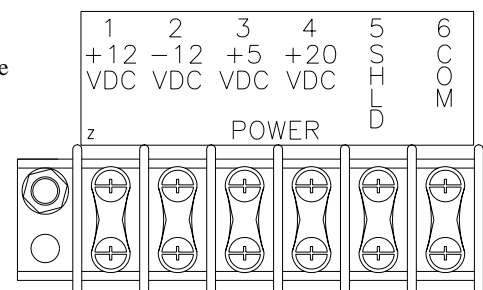

Figure Q.4-4: Power Connections for the Model TCPU and Tachometer
- 2) Attach the BROWN wire (12VDC to 24VDC Power) to the Power connection Z-1 on the Customer Connections Terminal Strip {Figure Q.4-4};